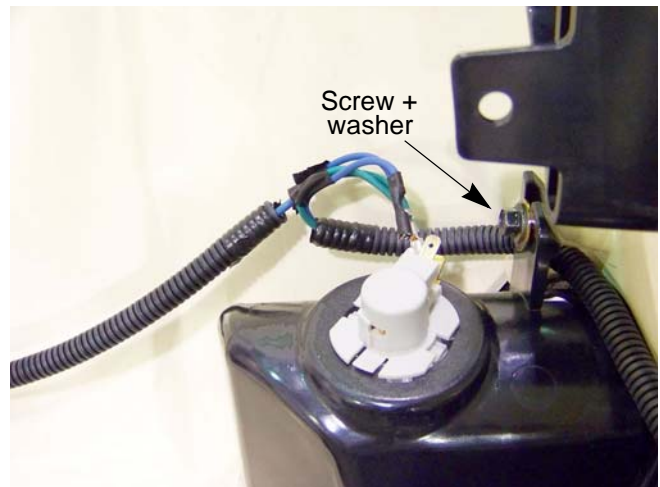

Figure 4.8
3. Remove the two screws, one in each headlight housing, that hold the upper corners of the grille to the hood using a 5/16" wrench. See Figure 4.8.